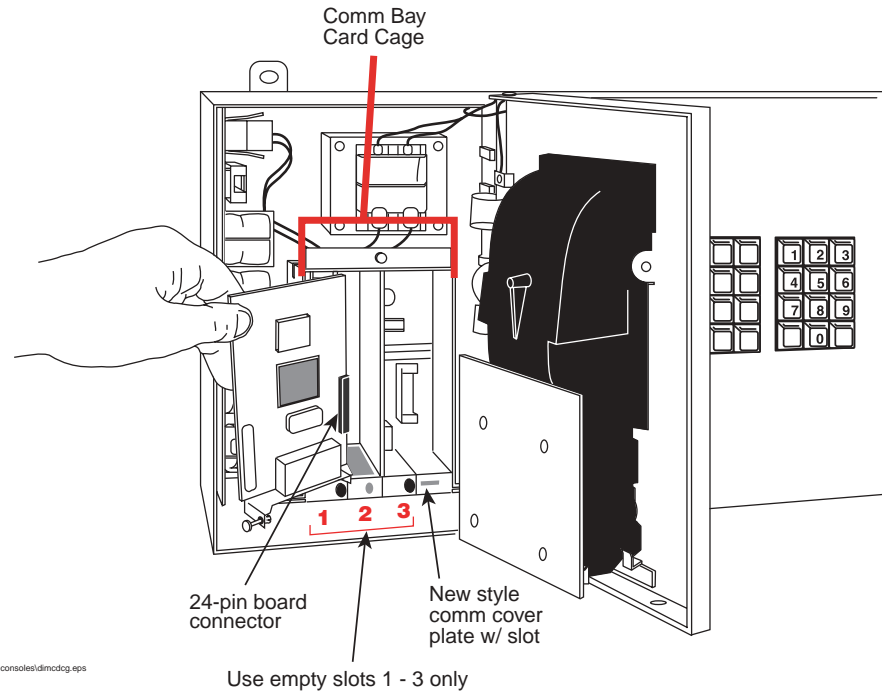

Figure 5. TLS-350 Series Gasboy Interface Module Installation
3. Remove the blank cover plate from an open slot in the communication compartment. Important Note: The Gasboy Interface Module can only be installed in slots 1, 2, or 3 of the console’s Comm Bay card cage (Figure 5).
If your console has “knockout” cover plates, open the printer door and insert a flat blade screw driver in the slot provided in the front of the cover plate you are removing and twist it to break the front set of metal securing tabs (Figure 5). Once the front tabs are broken, carefully rock the loosened end of the plate until the rear set of securing tabs break. Remove and discard the cover plate.